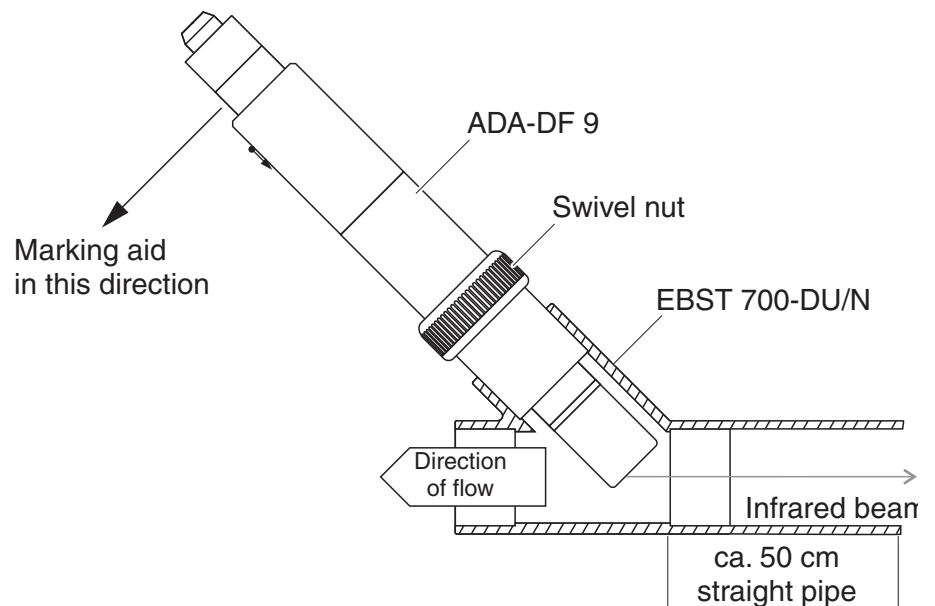

Fig. 3-5 Turbidity sensor in the pipe using EBST 700-DU/N flow-thru adapter
Fig. 3-5 shows the installation using the EBST 700-DU/N flow-thru adapter for installation in a straight pipeline (DN 50). The infrared beam is parallel to the pipeline axis and points in the opposite direction to the direction of flow. The marking on the sensor points towards the pipeline (see Fig. 3-5).
- 2 Install the sensor in the flow-thru adapter with the aid of the ADA-DF 9 adapter (see operating manual of the adapter). To correctly position the coupling ring on the EBST 700-DU/N, loosen it somewhat and line up the marking aid as shown in Fig. 3-5. Then, tighten the coupling ring.